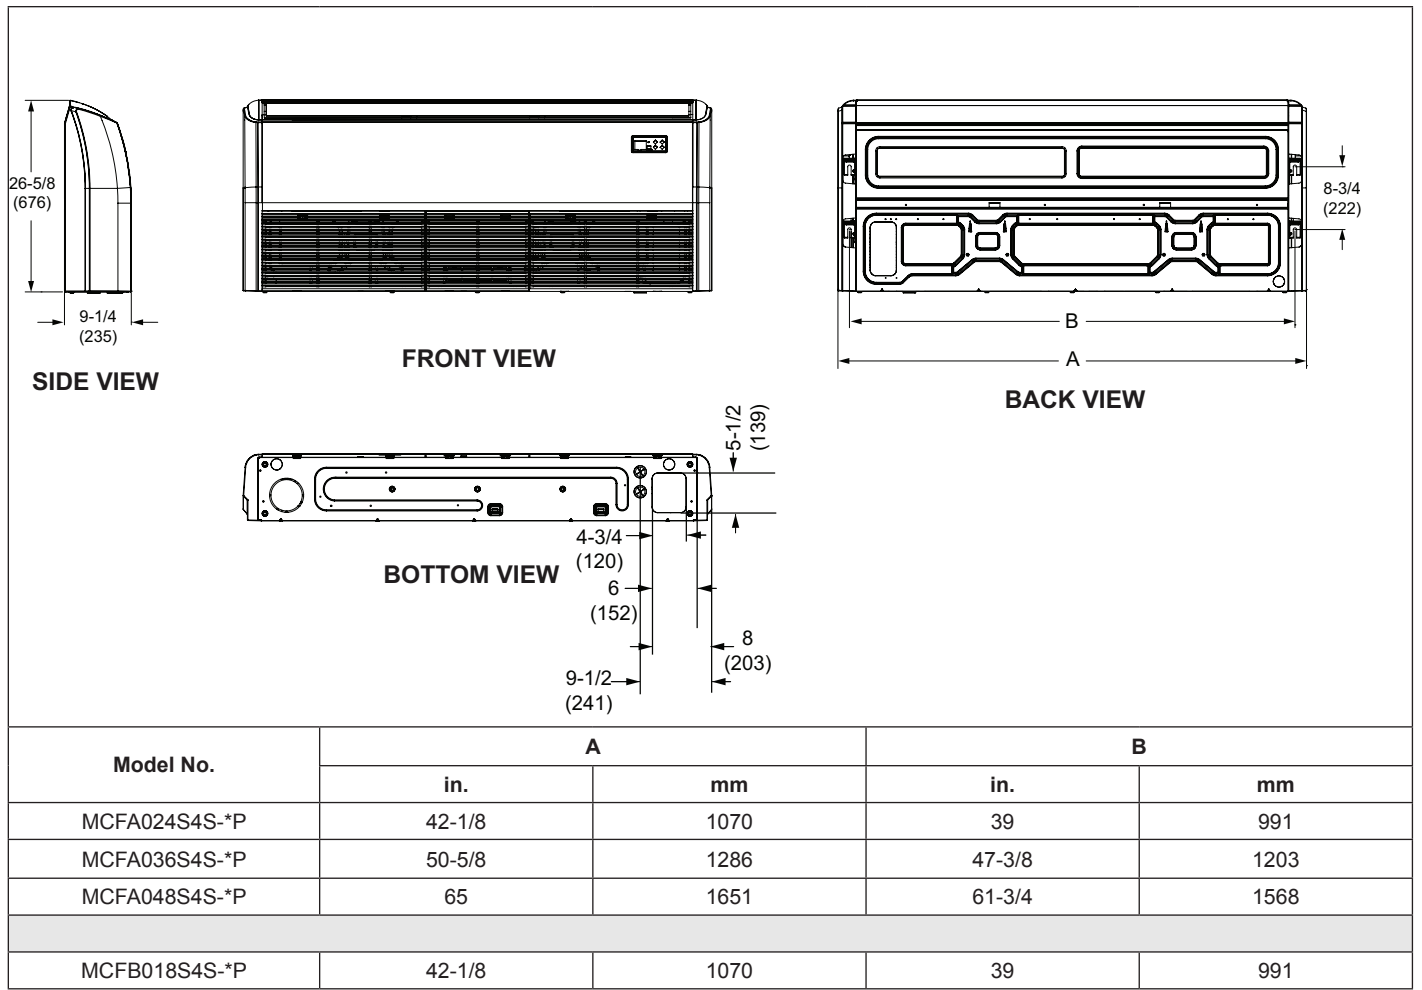

Figure 4. MCFA and MCFB Indoor Unit Dimensions - Inches (mm)
2. Install four mounting bolts (appropriate for your application) to the wall. See "Figure 4. MCFA and MCFB Indoor Unit Dimensions - Inches (mm)" on page 6 to ensure proper positioning of the bolts.